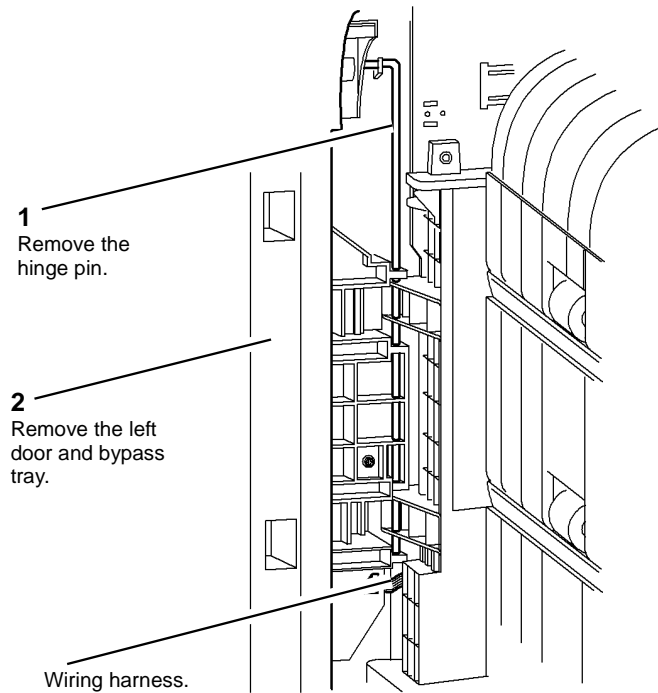

Figure 2 Door and tray removal
- Remove the bypass tray and left hand door assembly, Figure 2.